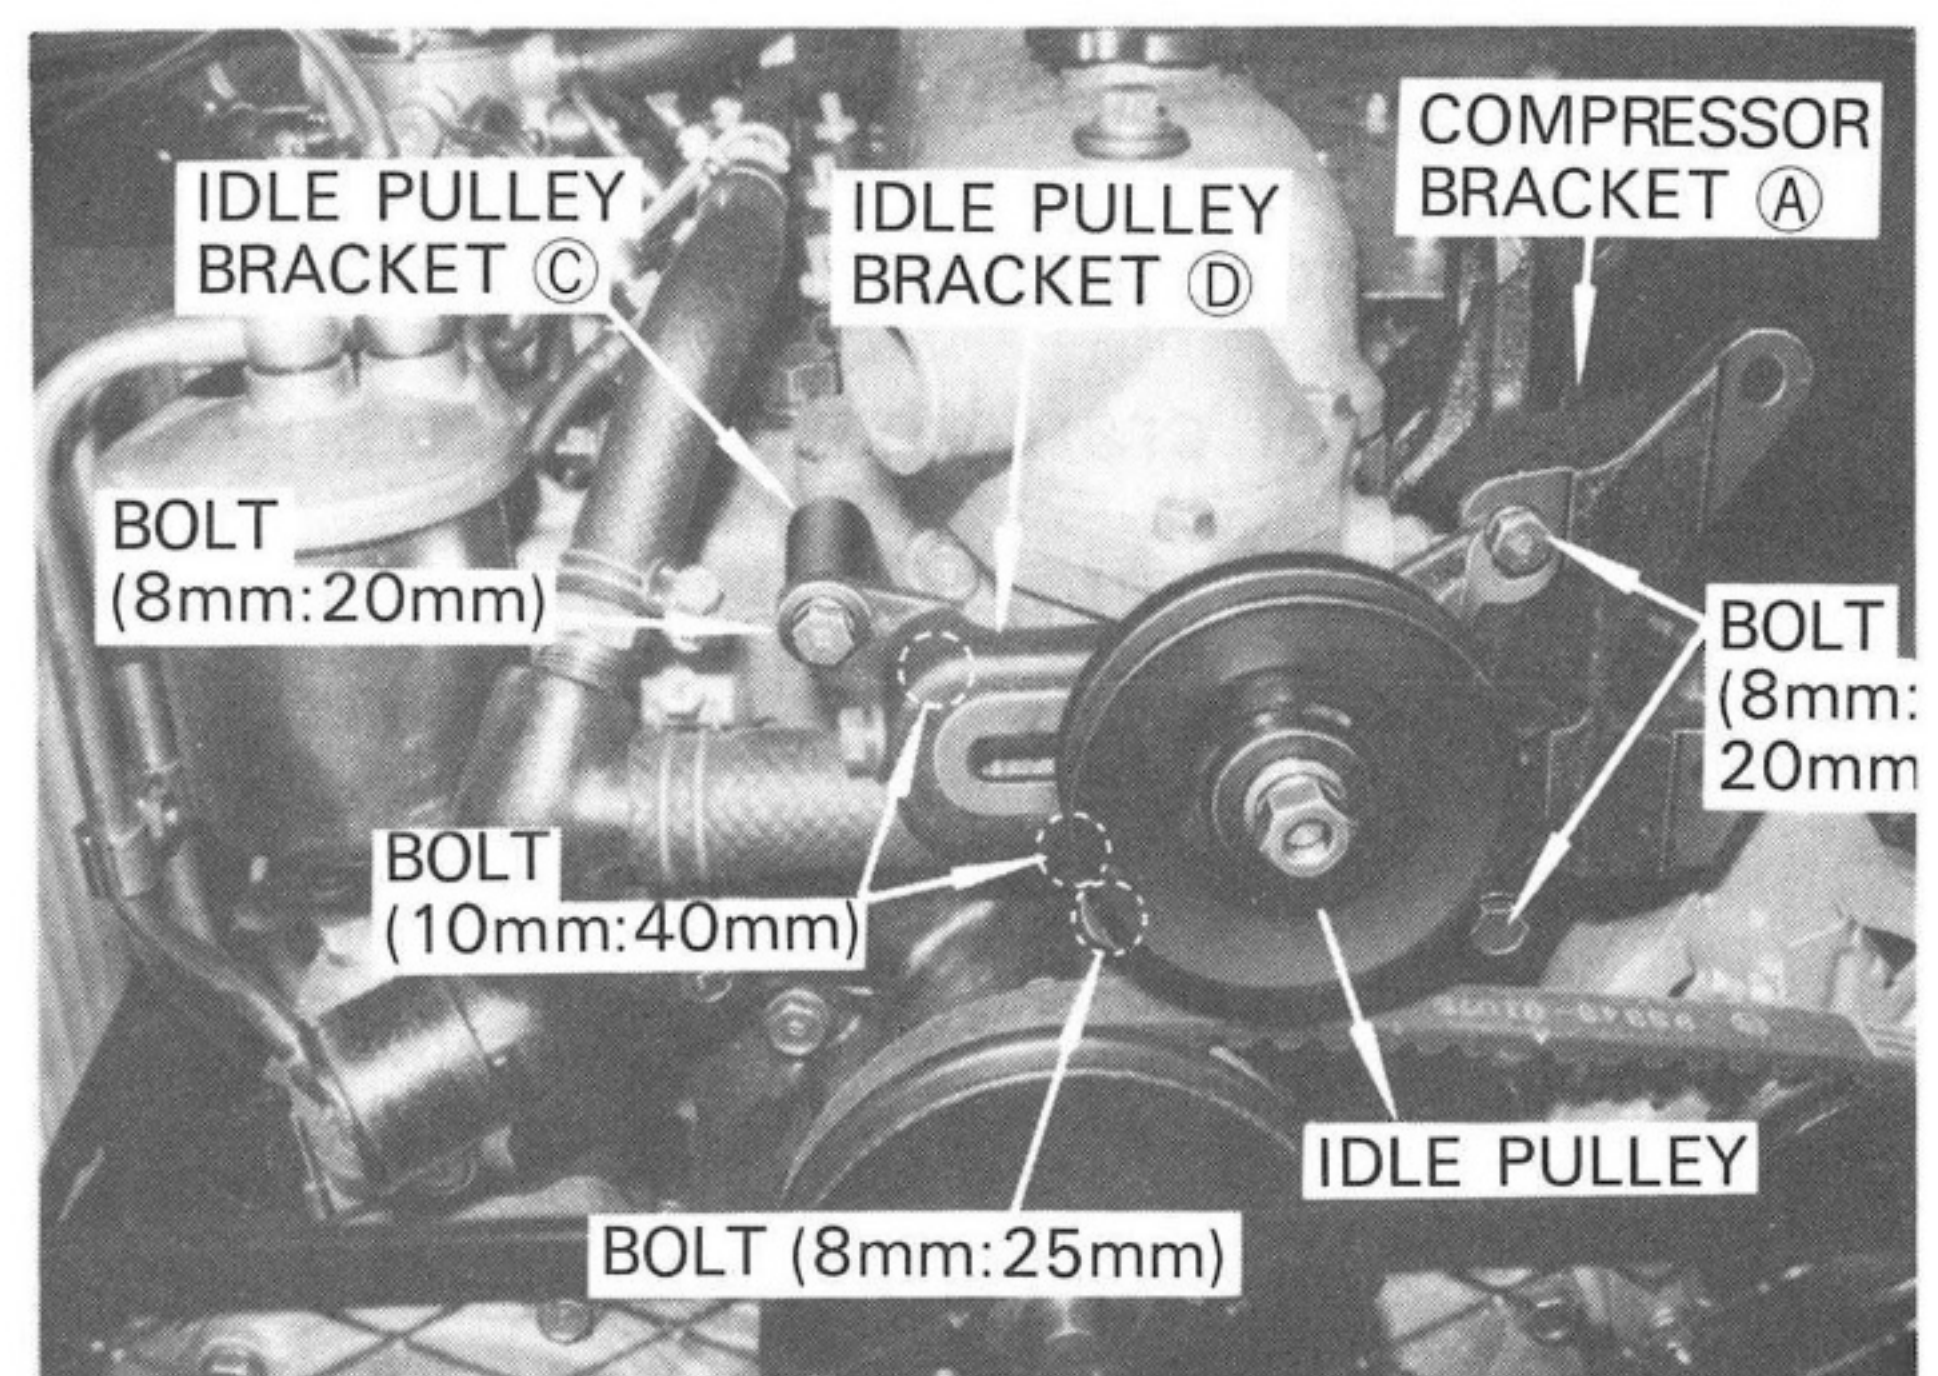

Fig. 2-6
- B) Assemble idle pulley on the idle pulley bracket ④.
- C) Secure idle pulley bracket ④ to the idle pulley bracket ③ using two bolts (8mm : 20mm and 8mm : 25mm), and to the compressor bracket ⑤ with two bolts (8mm : 20mm). See Fig. 2-6.